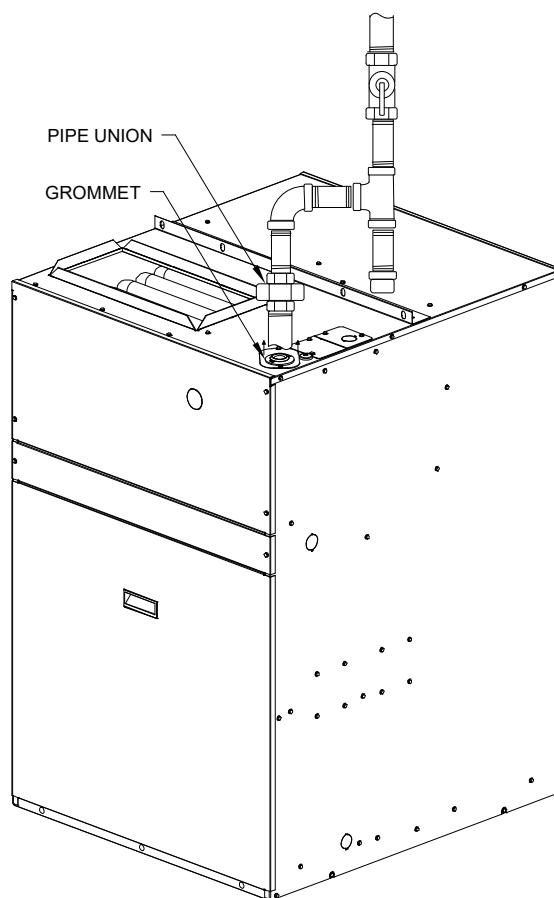

FIGURE 44 – Disconnection of Gas Union & Piping
- 7) Disconnect gas union and necessary piping to allow heat section module to slide out of cabinet as seen in **FIGURE 44 – Disconnection of Gas Union & Piping**.